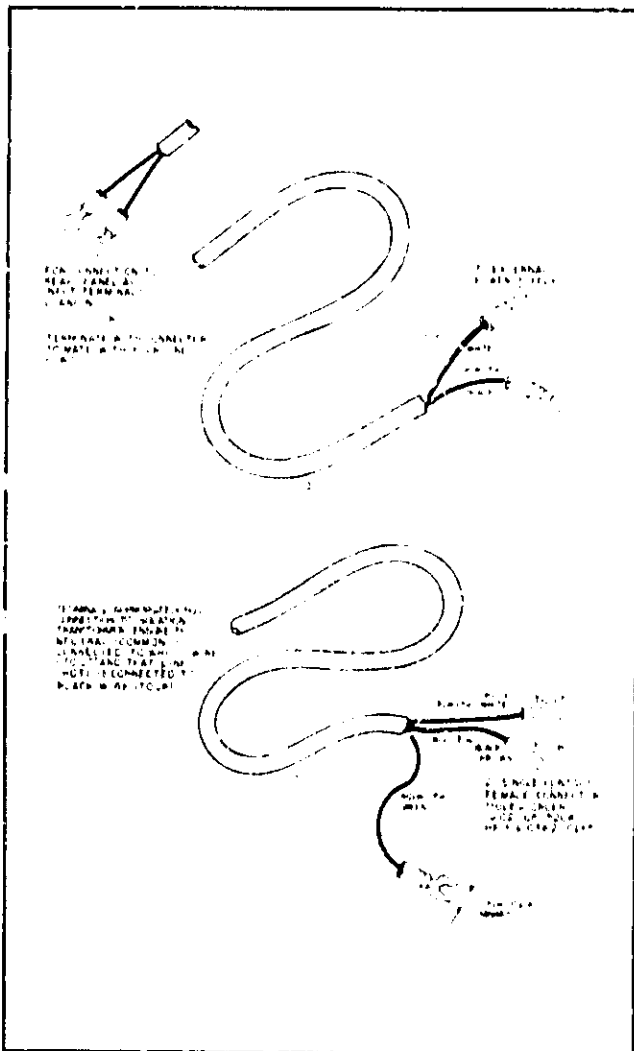

Figure 5-16. Modified Mains Cord Set For Troubleshooting
5-113 As a convenience in implementing the troubleshooting setup, modify a spare mains cord set as shown in Figure 5-16. This facilitates connecting the unit's power receptacle to the external supply and connecting the bias transformer to the ac mains.
- Complete the setup of Figure 5-16 by attaching an ac mains cord to test points TP1 (L, black wire) and TP2 (N, white wire) and connect the green ground wire to the unit's case ground terminal or a suitably grounded cabinet screw. TP1 and TP2 are accessible through the cutout on the left side of the unit and are at the left edge of the A1 main board.